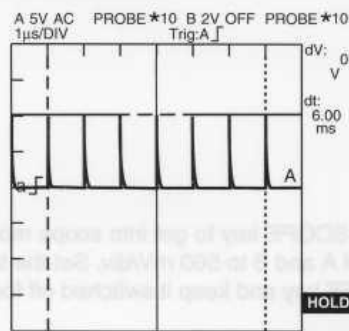

Figure 4.11 Cursor lines on marker pulses
- Position the cursor lines with the <CURSOR -1-> and <CURSOR 2-> keys, so that they cover a distance of 6 time marker intervals. Position the markers exactly to the top of the marker pulses. See figure 4.11.